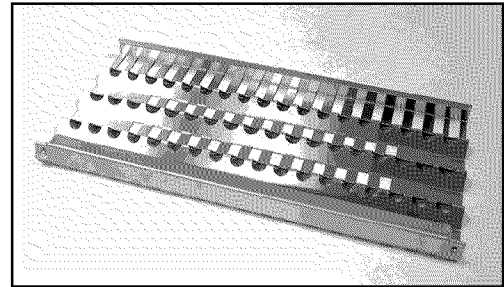

FIG. 21
1. Unpack ceramic rods and remove radiant (Fig. 21) from the unit.